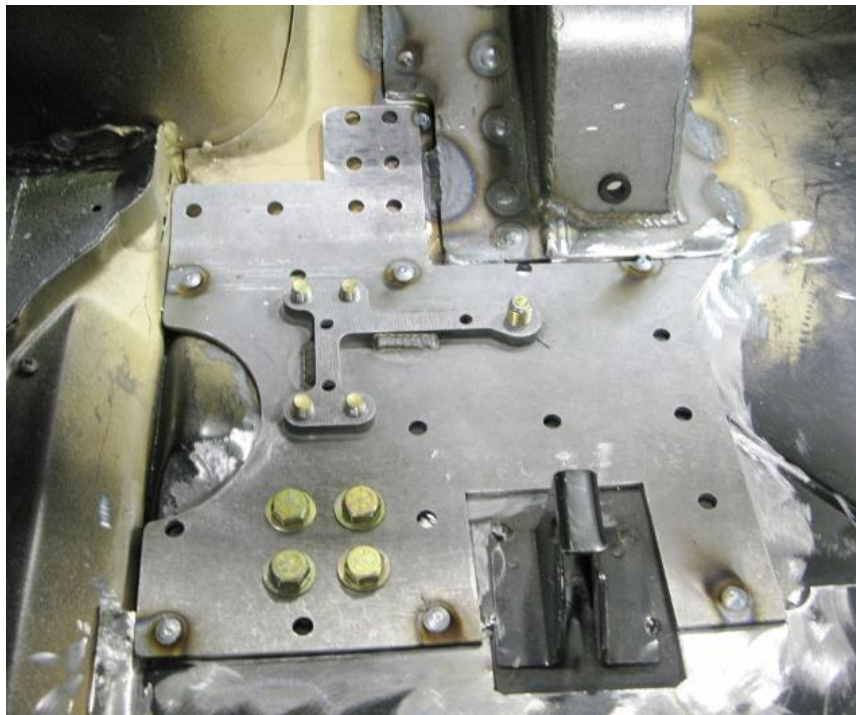

Figure 11 - Tack Weld Doubler Plate
26. Install the provided  $3/8$ "-16 x 1" L hex head bolts and the  $7/16$ "-14 x 4- $1/4$ " L hex head bolts. Tack weld the doubler plate to the floor pan (Figure 11).